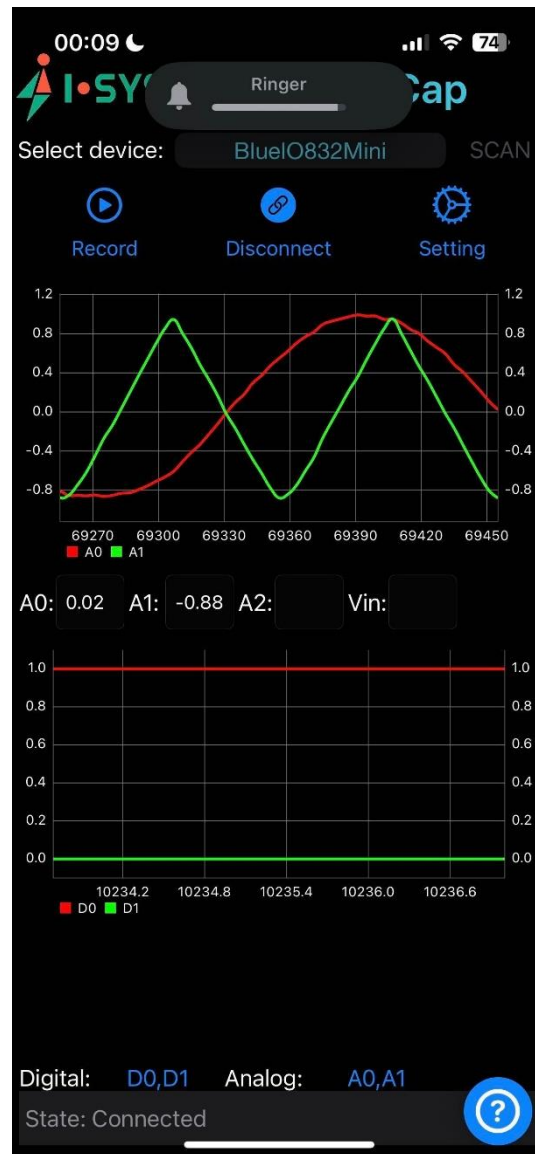

Fig. 15. Captured data displayed on BlueIOSigCap
- (iv) After selecting preferred channels, the captured data is displayed on the app as shown in Fig. 15.